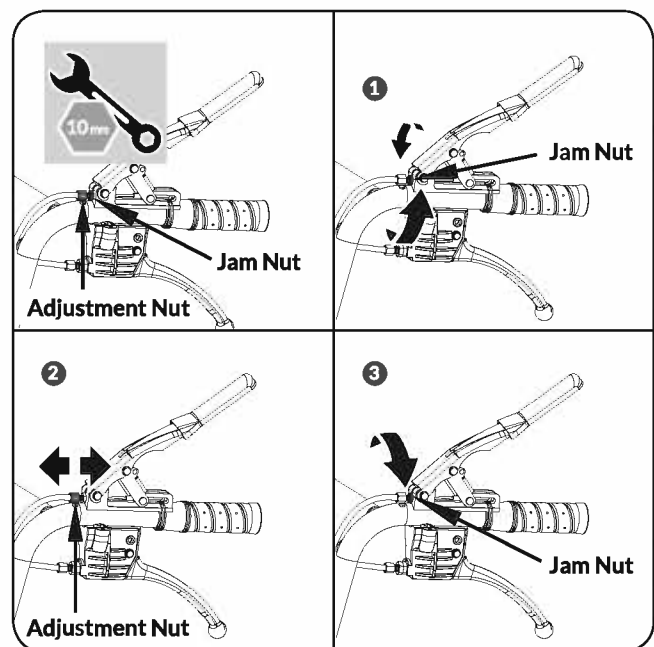

Figure 5
1. Loosen the jam nut by turning it counter clockwise with 10mm wrench. (see **Figure 5, Illustration 1**)
2. Tighten or loosen the cable by turning the cable adjustment nut clockwise or counter clockwise with 10mm wrench until you have reached your required tightness. (See **Figure 5, Illustration 2**)
3. Once tightness is set, return the jam nut against the handle to hold the cable in place. (See **Figure 5, Illustration 3**)